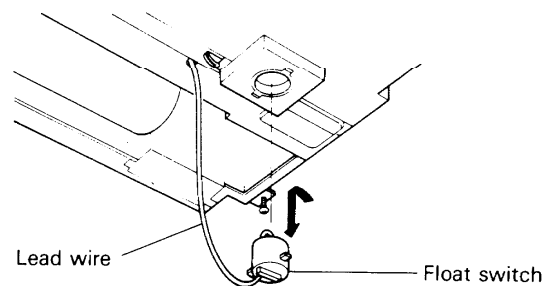

Fig. 3
- (1) Separate the lead wire (2P connector).
- (2) Turn the float switch to the left and remove it by pulling downward. At this time, take care not to spill the drain water remaining in the float switch.
- (3) Discharge the drain water and then confirm vertical movement of the float switch. Fig. 3